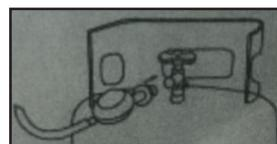

Fig. 1
1. Rotate the angle valve of the gas cylinder clockwise to the fully closed position and put the pressure reducing valve into the angle valve of the gas cylinder. (Fig. 1)